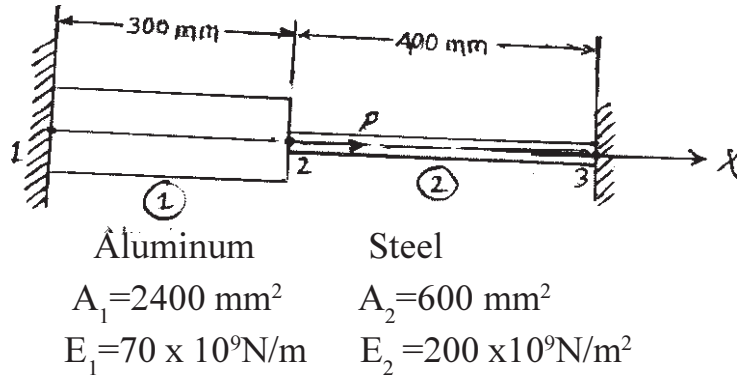

Fig:3b
b) Consider the bar as shown in fig 3b. An axial load of $P=200 \times 10^3$ N is applied as shown. Determine [10]